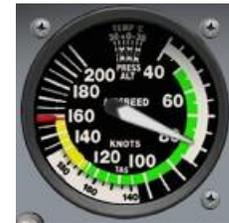

Figure 2.7: The airspeed indicator in the Cessna 172 [Full size →]
4. Watch your airspeed indicator (seen in Figure 2.7), and when it hits 60 knots, pull back slightly to get the plane off the ground.